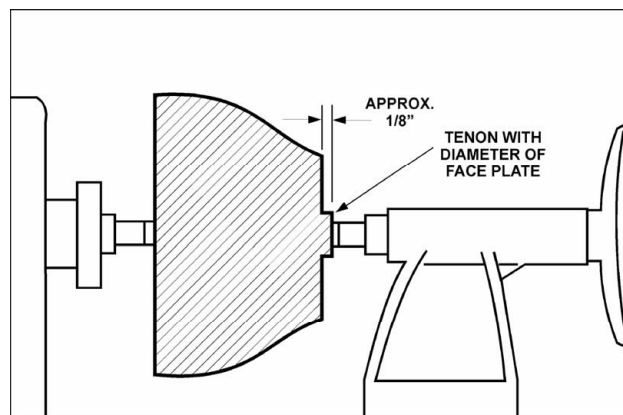

Fig. 22
3. Slip the spur center into the headstock taper and bring the tailstock, with a live center, into position. Lock the tailstock to the bed and advance the spindle in order to seat the cup center into the workpiece, see Figure 22. Tighten the quill lock.
8. As the bowl takes shape, work on the bottom (tailstock end) to accommodate attaching a faceplate, see Figure 22.
9. Turn a short tenon (about 1/8" long) the size of the hole in the faceplate, see Figure 22. This will allow centering the workpiece when the faceplate is attached. **Note:** If you plan to use a chuck, turn a tenon of appropriate length and diameter to fit your chuck.